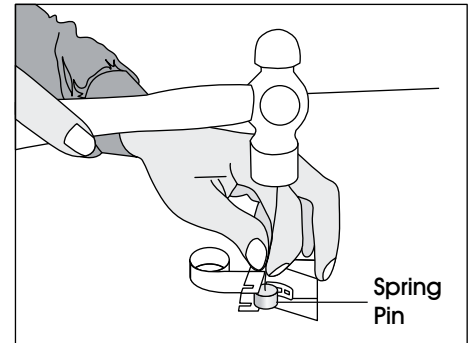

Figure 26
7. Remove the spring pin with a hammer and 4 mm straight rod. (See Figure 26)